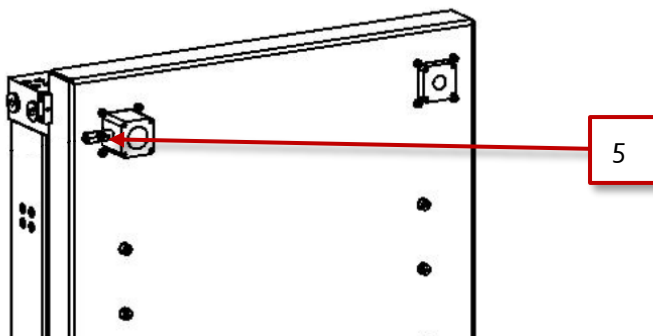

Figure 67 Open bleed valve
5. Open the bleed valve at the top of the generator, see Figure 67. The generator contains about 3 liters.